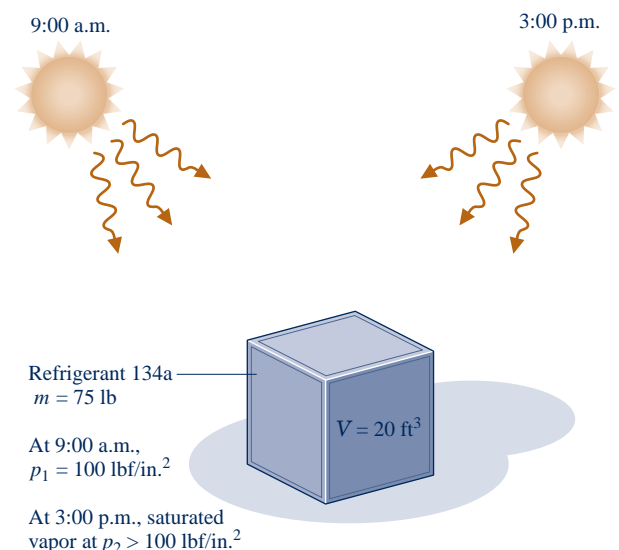

Fig. P3.59
- 3.59** As shown in Fig. P3.59, a rigid, closed tank having a volume of 20 ft³ and filled with 75 lb of Refrigerant 134a is exposed to the sun. At 9:00 a.m., the refrigerant is at a pressure of 100 lbf/in.². By 3:00 p.m., owing to solar radiation, the refrigerant is a saturated vapor at a pressure greater than 100 lbf/in.². For the refrigerant, determine (a) the initial